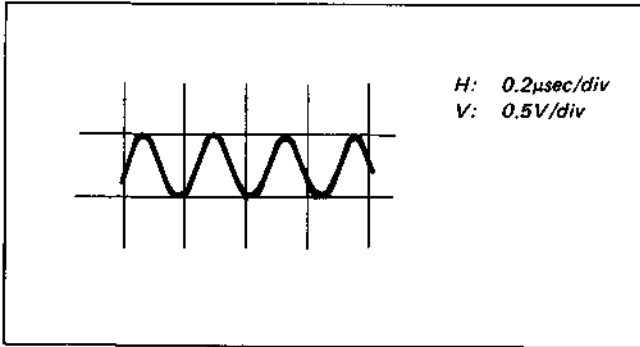

Fig. 4-4-14. Output level check
- (1) Set up the PLAY mode.
- (2) Connect the frequency counter to TP24 (emitter of Q57).
- (3) Adjust T7 for an oscillating frequency of 4.433619 MHz.
- (4) Check that the output level is  $0.5\text{ V} \pm 0.05\text{ V}_{p-p}$ . (See Fig. 4-4-14.)